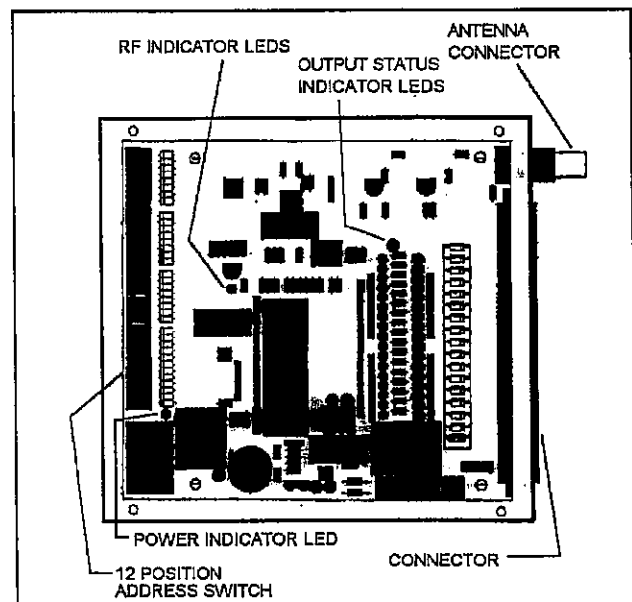

Figure 4-3 Receiver Printed Circuit Board
a. Remove the cover on the receiver. (See Figure 4-3.)